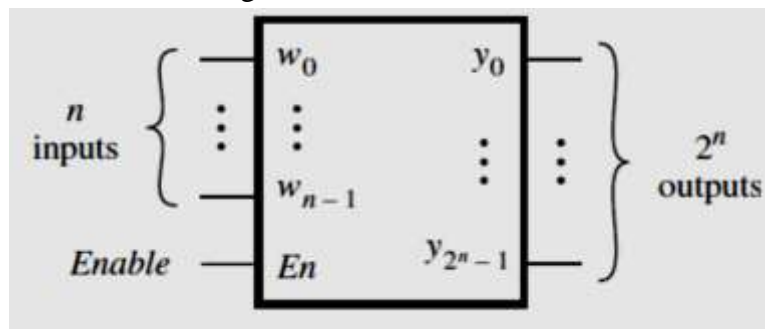

Figure 8.1 Decoder
- A binary decoder, depicted in Fig. 8.1, is a logic circuit with n inputs and 2^n outputs.